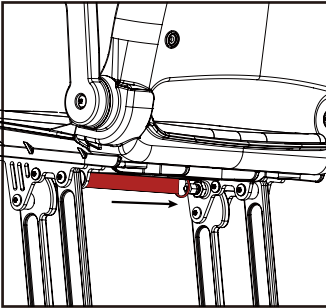

Figure 9 : Seat Strap for Lock Release
1. Pull the Seat Strap: Stand behind the seat and gently pull the strap located under the seat base to release the locking mechanism(see figure 9) .